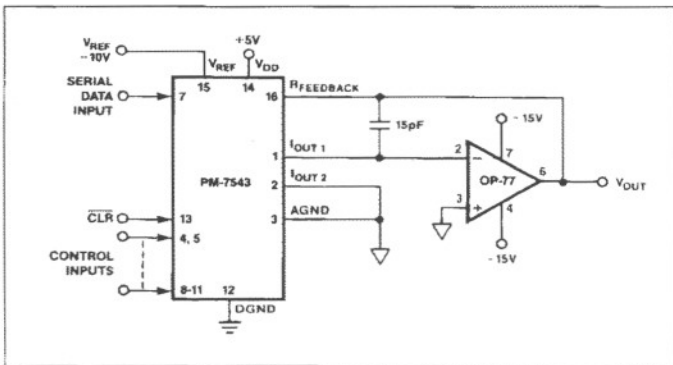

FIGURE 7: Unipolar Operation with High Accuracy Op Amp (2-Quadrant)
1. Phase compensation (see Figures 7 and 8).
In most applications, linearity depends upon the potential of  $I_{OUT1}$ ,  $I_{OUT2}$ , and AGND (pins 1, 2, and 3) being exactly equal to each other. In most applications, the DAC is connected to an external op amp with its noninverting input tied to ground (see Figures 7 and 8). The amplifier selected should have a low input bias current and low drift over temperature. The amplifier's input offset voltage should be nulled to less than  $\pm 200\mu V$  (less than 10% of 1 LSB).
The circuit shown in Figures 7 and 8 may be used with an AC or DC reference voltage. The circuit's output will range between 0V and approximately  $-V_{REF}$  (4095/4096) depending upon the digital input code. The relationship between the digital input and the analog output is shown in Table 2. The  $V_{REF}$  voltage range is the maximum input voltage range of the op amp or  $\pm 25V$ , whichever is lowest.
1. Nominal full scale for the circuits of Figures 7 and 8 is given by  $FS = -V_{REF} \left( \frac{4095}{4096} \right)$ .
2. Nominal LSB magnitude for the circuits of Figures 7 and 8 is given by  $LSB = V_{REF} \left( \frac{1}{4096} \right)$  or  $V_{REF} (2^{-n})$ .